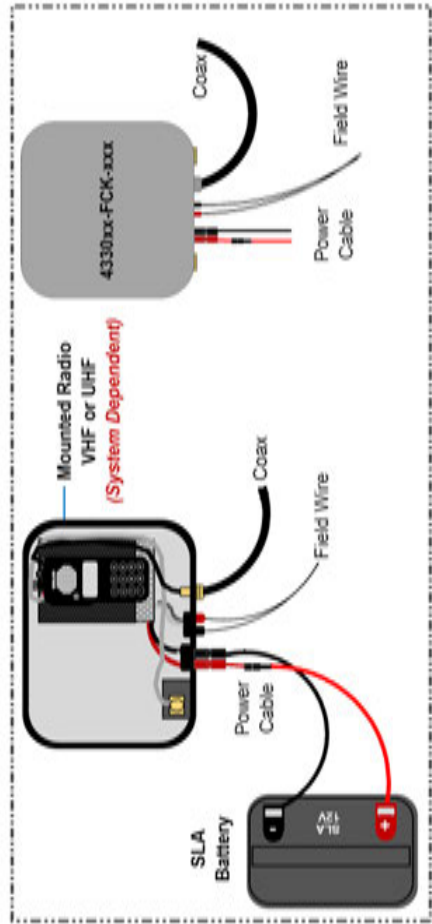

Figure 4:
4. Field Wire Setup: (See Figure 4)
- Verify the 4330EX desk set dip switches, located on the bottom of the EX CPI, are set to 5K High Impedance operation. (See Figure 4)